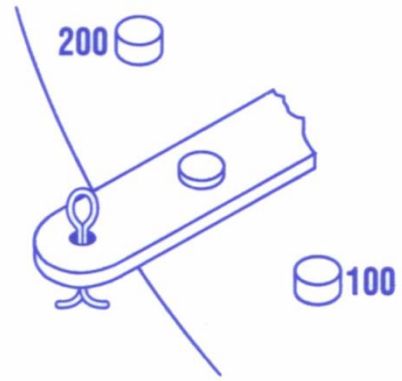

FIGURE 2
- 2) Move dollar shift lever to "central" position (see Figure 2).
- 2) Move dollar shift lever to "100" position (see Figure 2).
- 2) Move dollar shift lever to "200" position (see Figure 2).